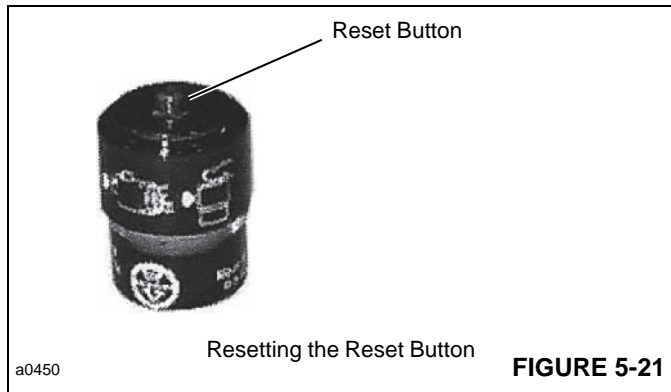

FIGURE 5-21
3. Reset the air cleaner restriction indicator by pushing in the reset button (Figure 5-21).